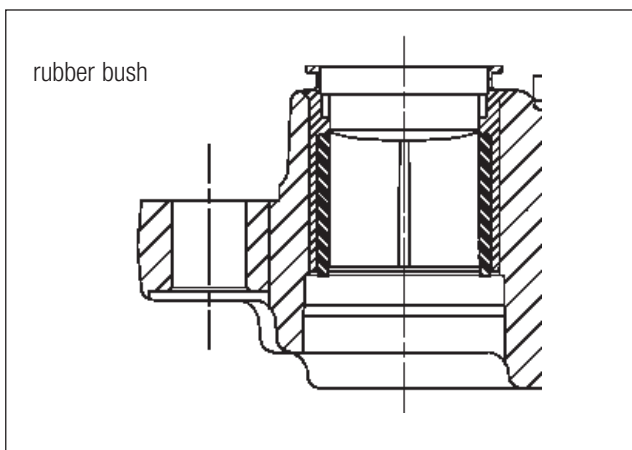

Fig. 11.5
4. A plain guide sleeve with an oval rubber bush and integral dust excluder retainer (Fig. 11.5).